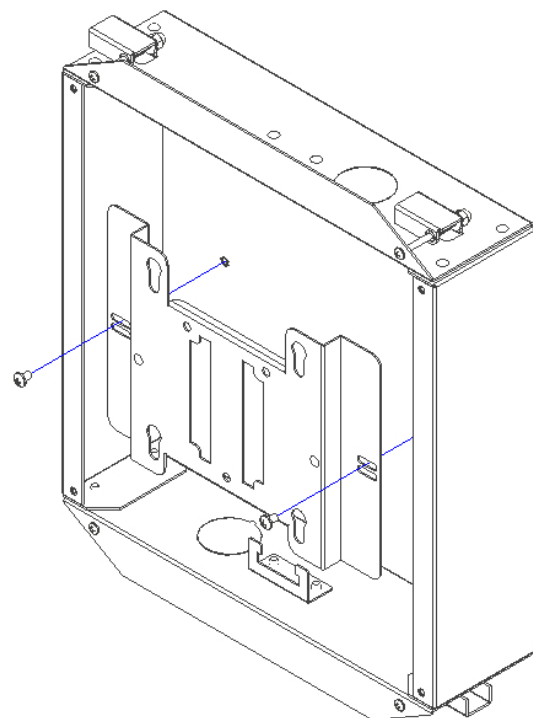

Figure 2 - Bracket Attachment
Step 4 - Fasten the mounting bracket to the back box using the provided #8-32 screws (Figure 2). **NOTE:** the mounting bracket may also accommodate Cisco **AIR-AP-BRACKET-2** by fastening directly to the Oberon mounting bracket.